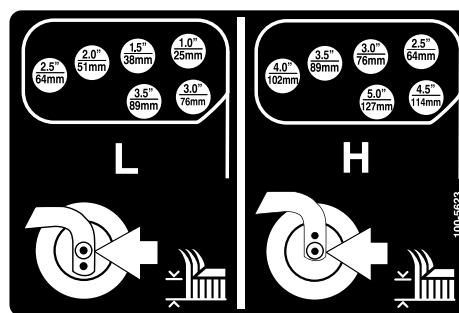

Figure 23
- Rotate tension rod to raise or lower pivot arm until holes are aligned with selected height-of-cut bracket holes in the cutting unit frame (Figure 22 and Figure 23).